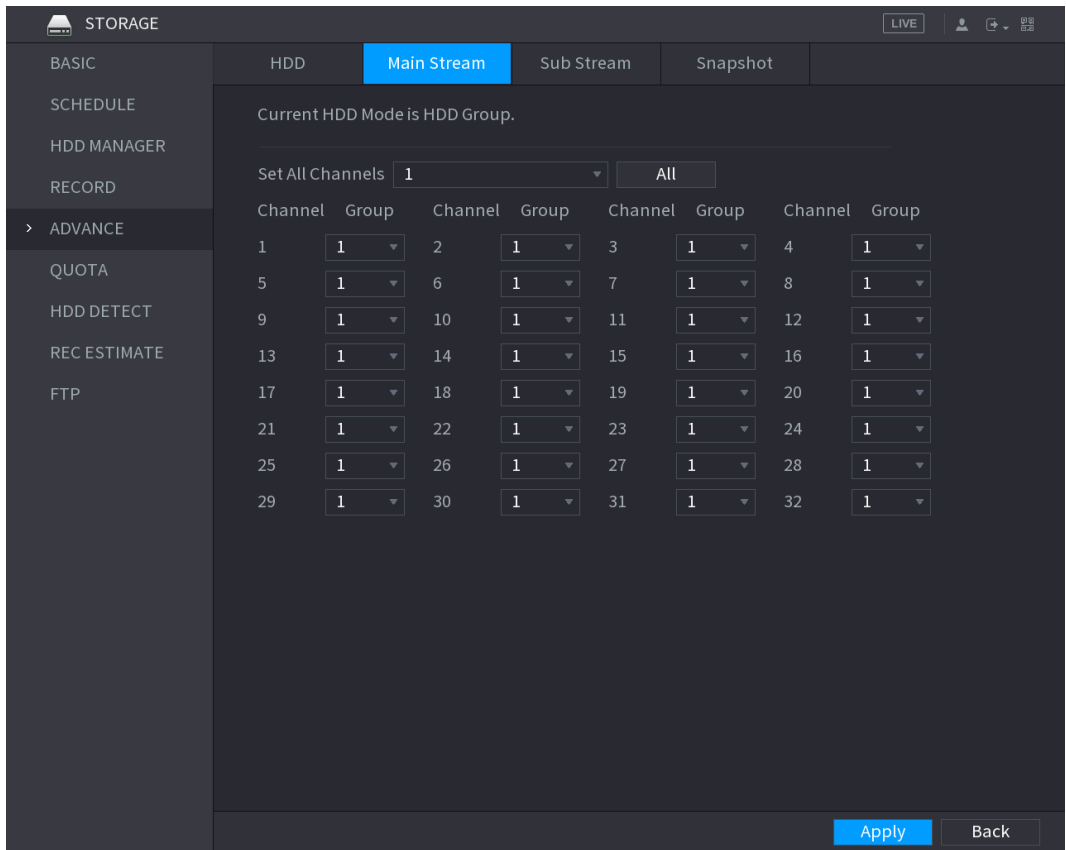
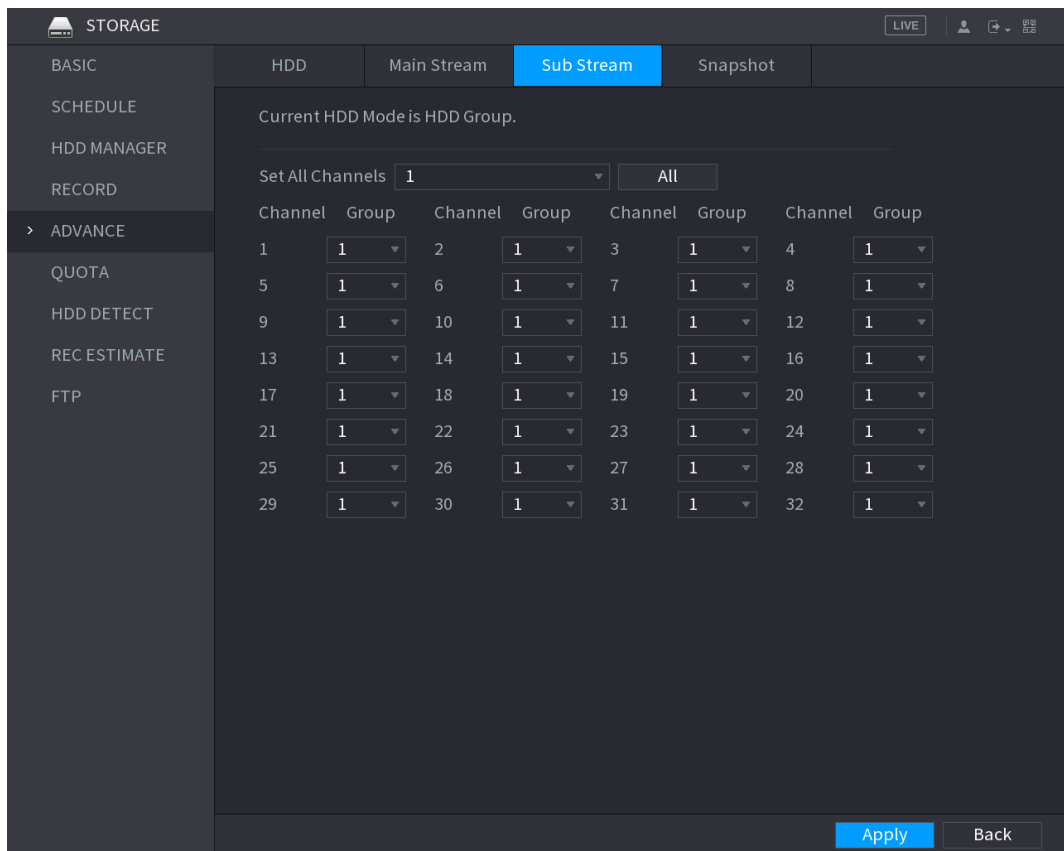
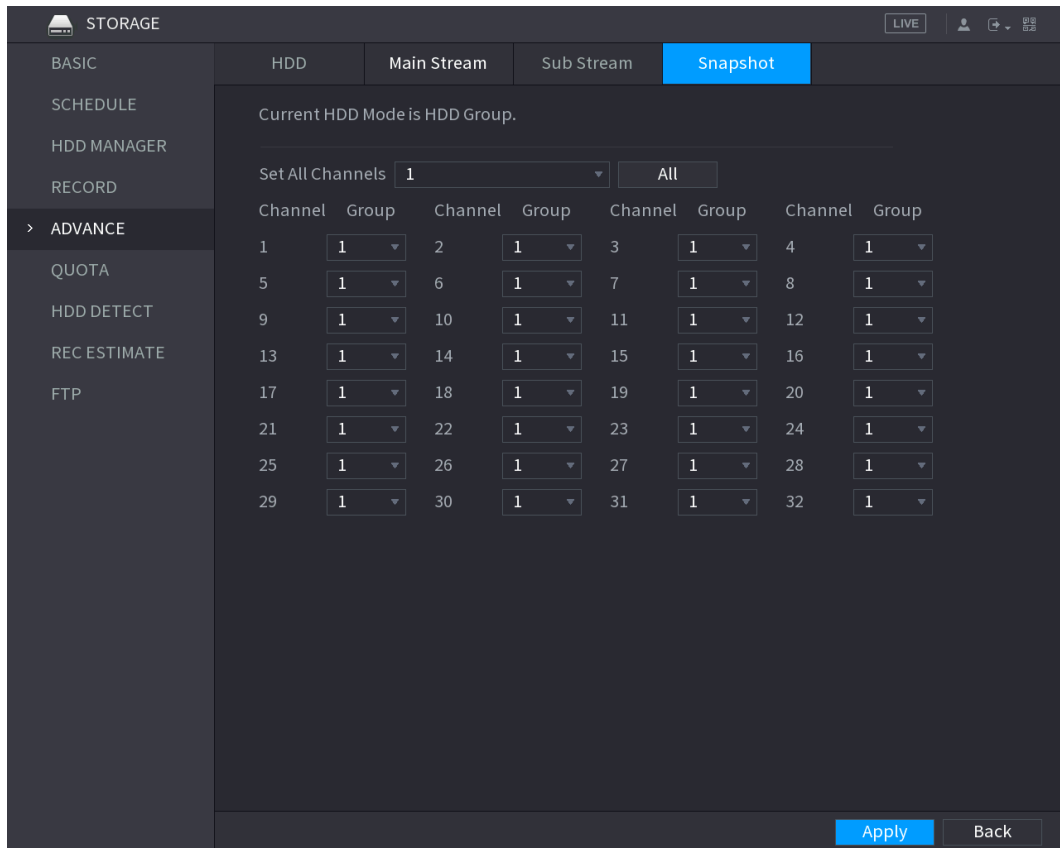

Figure 5-242
Figure 5-243
Figure 5-244
**Step 3** After configuring HDD group, click **Main Stream**, **Sub Stream** and **Snapshot** tabs respectively, to configure the saving of main stream, sub stream and snapshot information of different channels to different HDD groups. See Figure 5-242, Figure 5-243 and Figure 5-244.